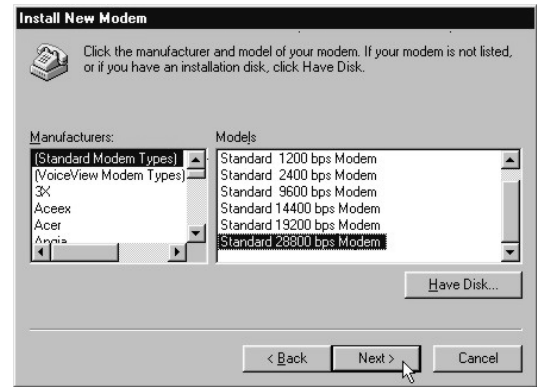

Figure 5 - Choose Modem Type
4. Select "(Standard Modem Types)" from the "Manufactures:" list. Choose "Standard 28800 bps Modem" from the "Models" list and click NEXT. (Fig.5)